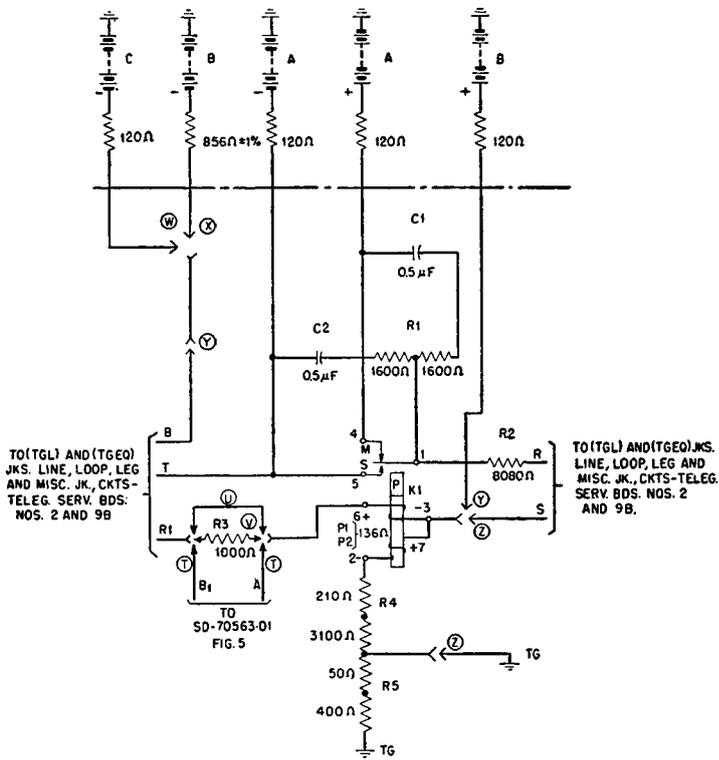

FIG. 1
2.01 Fig. 1 is a detail drawing of the 13H1 loop repeater. The B, T and R1 leads connect to the loop or loops while the R and S leads connect to the relay-type line repeater. Operating arrangements and wiring options used for each arrangement are listed in Table 1.